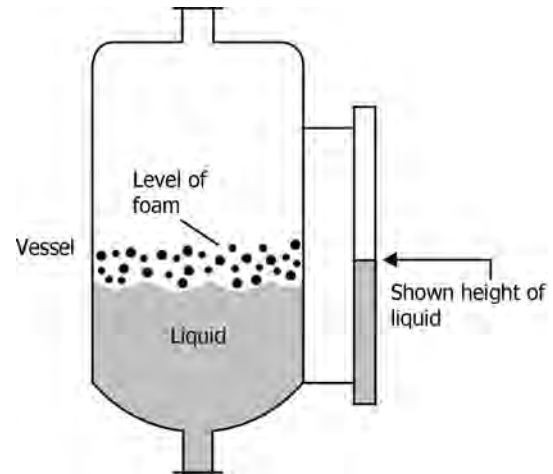

FIGURE 1.20 Inaccuracies in level measurements for foaming liquids.
- Foaming liquids cause inaccurate level readings as illustrated in Figure 1.20.
- What are differential pressure (DP) cells? How are they used for liquid level measurement?